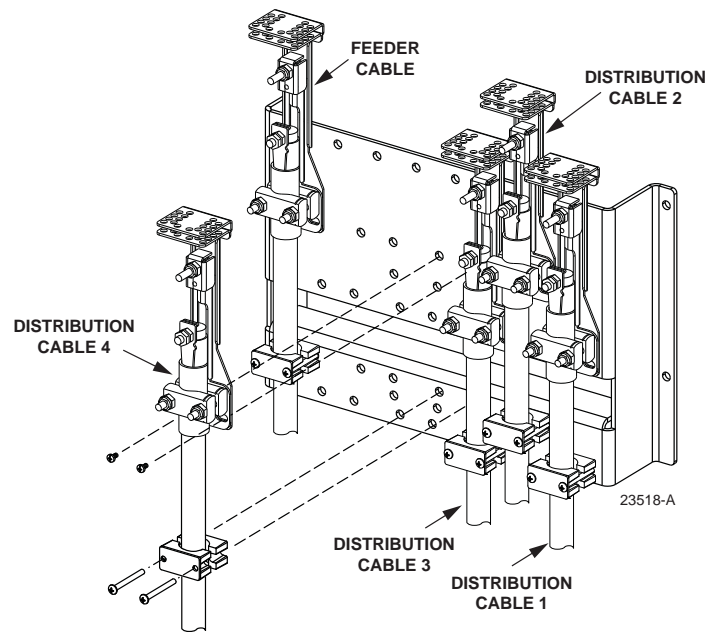

Figure 23. Secure Distribution Cable to Cable Bracket
3. Locate the cable clamping position specified for the next distribution cable as shown in Figure 23.